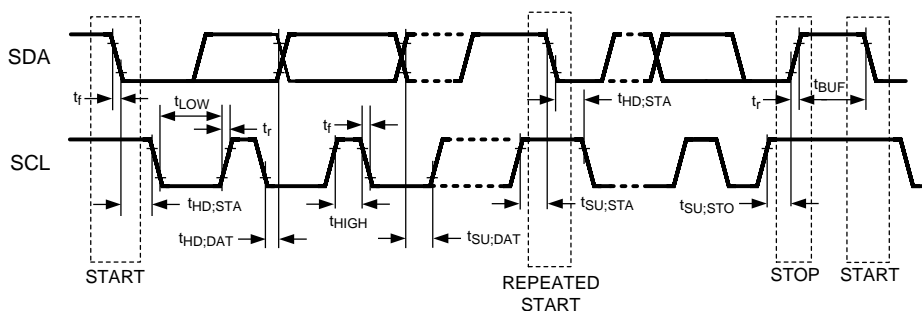

Figure 1. Serial Control Bus Timing
6.7 Serial Control Bus AC Timing Specifications (SCL, SDA) - I²C Compliant (See Figure 1)